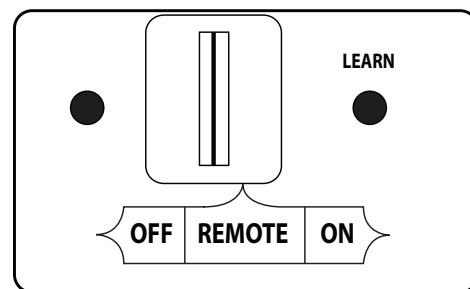

Fig. 11-2 Remote receiver (OFF for Manual Light)
1. Ensure the pilot is burning. If equipped, locate the 3-position switch on the remote receiver (see Fig. 11-2), and slide the switch to the **OFF** position.